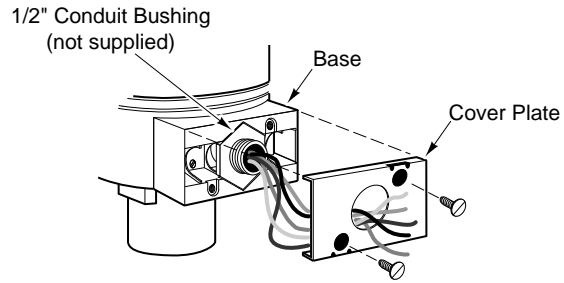
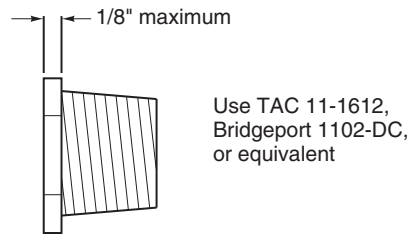

Figure-11 Conduit Bushing and Cover Plate Installation.
Figure-12 1/2" Conduit Bushing.
- Slip the leads through a standard 1/2" conduit bushing (not supplied) and the knockout hole in the cover plate. Refer to Figure-11 and Figure-12 .
Note: As shown in Figure-11 , the hole in the cover plate of the actuator conduit housing is sized to accept both British standard M20 (20 mm) conduit connectors and 20 mm-to-PG16 adaptors for use with DIN PG16 connectors. (Follow the steps for installing the conduit box to the actuator.)